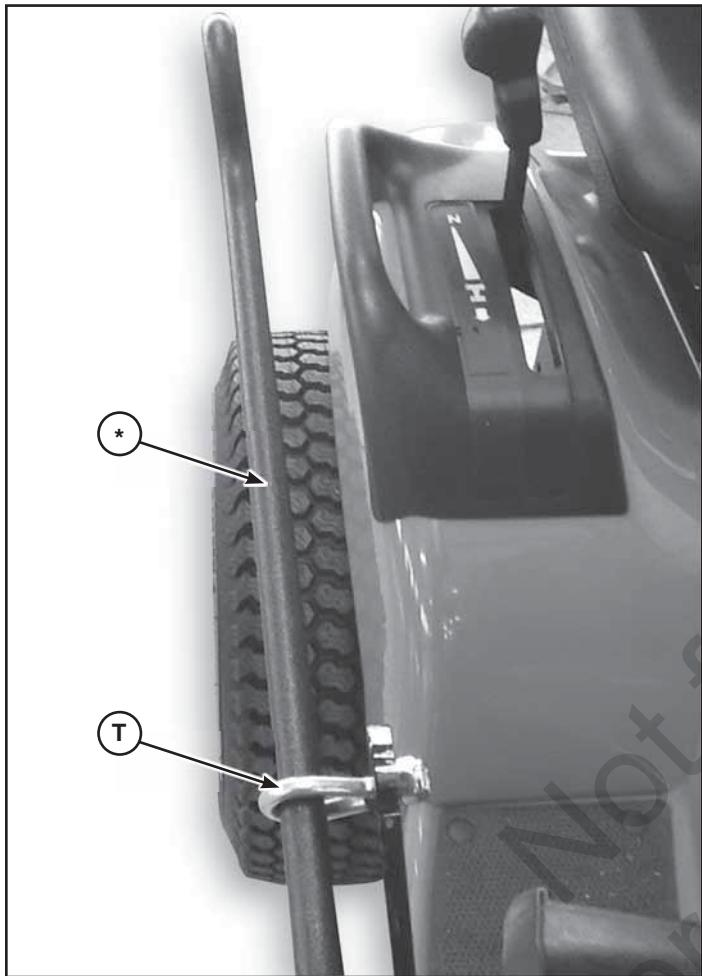

Figure 23
8. Insert handle assembly (\*, Figure 23) through eyebolt (T).